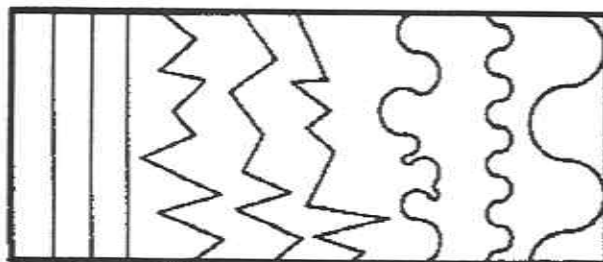

Fig. A-4
**Step #1** --- Take a piece of paper (or draw directly on the wood with a felt tip or ball-point pen) and draw a series of straight and zigzag lines like the ones in the diagram. (See fig. A-4.)